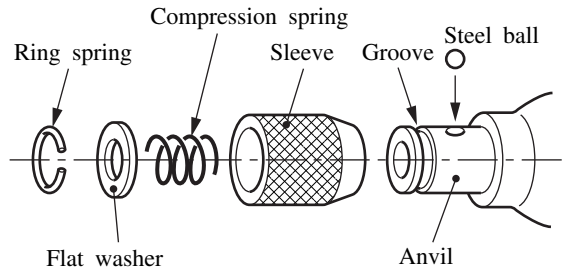

Fig. 1
(1) Disassembly of Housing R/L:As Hammer case is attached to Housing R/L, you need to take away Hammer case before disassemble Housing R/L.
(2) Disassembly of Bit attaching/detaching part in Anvil: The structure of Bit holder is shown in the Figure 1. If you remove Ring spring from Anvil groove with a tool such as Retaining ring plier , Sleeve and other parts come out. When Bit holder has been disassembled,Anvil can be removed from Hammer case. (same as in 6913D)